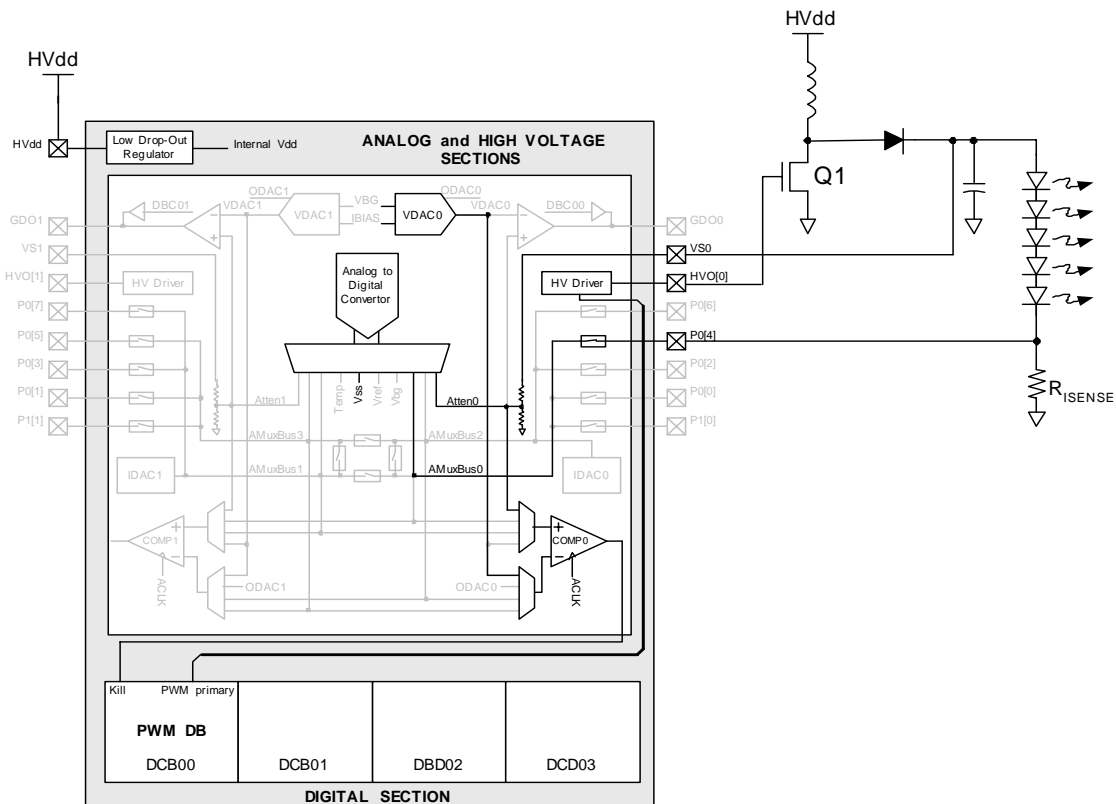

Figure 5-1. Boost Converter White LED Driver
A white LED driver is a constant current power supply. By driving the same current through a set of LEDs in series, the intensity of the LEDs can be closely matched. The CY8C42x23 Power PSoC can be configured as a constant voltage or constant current boost supply. In this configuration, the  $HV_{dd}$  voltage is lower than required to drive the LEDs in series and a higher voltage must be generated. White LEDs typically have a forward voltage of around 4V, so in the five LED configuration shown in *Figure 5-1* the LED drive voltage would have to be around 20V (plus allowance for the voltage losses in the FET and the current sense resistor,  $R_{ISENSE}$ ).
*Figure 5-1* shows an inductor, an NFET, a diode, and a capacitor configured as a boost converter with the CY8C42x23 as the controller. The voltage on the capacitor is fed back through a voltage sense pin,  $VS_0$ , and an attenuator,  $Atten_0$ , to the comparator,  $COMP_0$ . The  $VS_0$  pin can be connected directly to a voltage higher than  $HV_{dd}$ , so no external signal level conversion is needed. The output of the comparator controls a single PSoC digital block configured as a PWM. The reference for the comparator is the output of  $VDAC_0$ . When the attenuator output exceeds the reference, the comparator will stop the PWM using the "Kill" input. This creates a feedback loop that maintains the  $VS_0$  node at a voltage proportional to the  $VDAC_0$  setting. The  $Atten_0$  output is also connected to the ADC so the control software can monitor the output voltage.